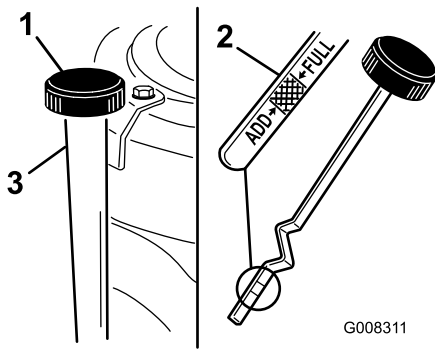

Figure 25
7. Clean around the dipstick (Figure 25) so that dirt cannot fall into the filler hole and damage the engine.
8. Unscrew the dipstick and wipe the metal end clean (Figure 25).
9. Screw the dipstick fully onto the filler tube (Figure 25).
11. Clean around the dipstick and unscrew the cap (Figure 25).
12. Slowly pour approximately 80% of the engine oil into the filler tube (Figure 25). Refer to Servicing the Engine Oil (page 23).